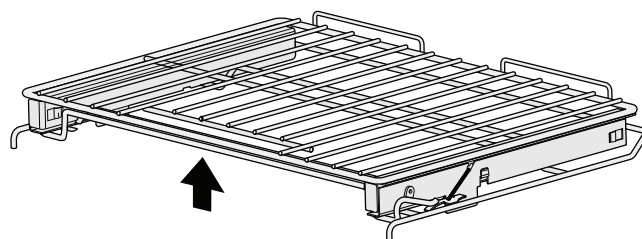

Figure 5: Extendable Glide Rack with release lever in unlocked position. To release pull up on release lever.
1. Lift up on the release lever located across the lower front of the rack, as shown in (Figure 5).
2. While holding up the release lever (Figure 5) pull the Glide Rack out of the oven until the stop position is reached. Use two hands if necessary.